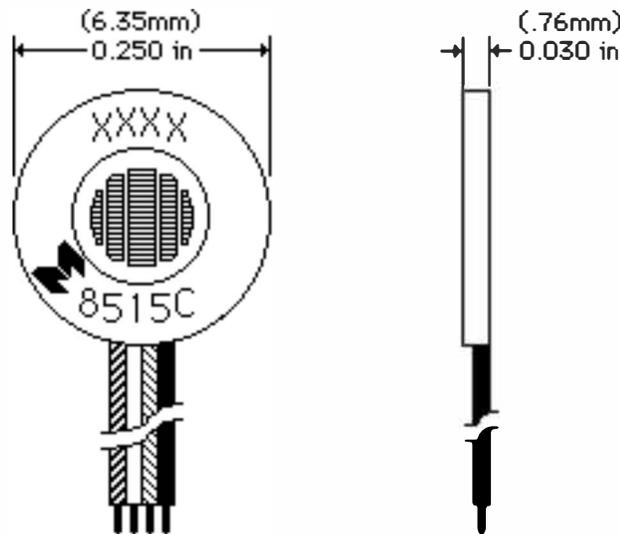

FIGURE 5-1: LOW PROFILE PR TRANSDUCER
(3) Flat Transducer (e.g. 8515-15) — The miniature 8515 series transducer, shown in Figure 5-1, has been shown to have excellent strain isolation. As an example the strain error for a 15 psi unit of 0.004 equivalent psia is only 0.027 percent of full scale pressure output. However, it should be recognized that this direct strain input to the gages is a constant percentage of full scale. Therefore, this same strain error for a 50 psia unit is approximately 0.013 equivalent psia or 0.027 percent of full scale.